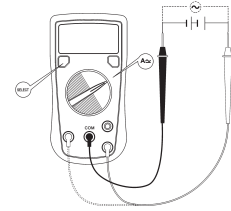

figure 3
C. DC/AC Current Measurement (see figure 3)